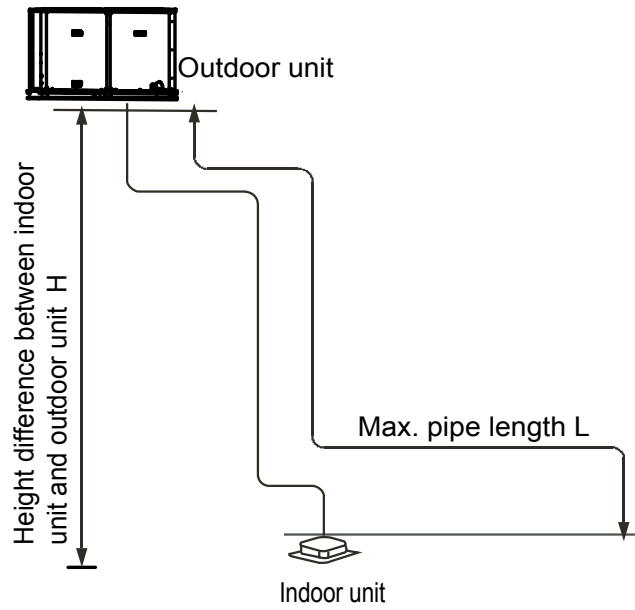

Fig 2-11
4.8 The max. equivalent length of piping and the max. height difference between indoor unit and outdoor unit should check the following table and sketch. (Fig 2-11)